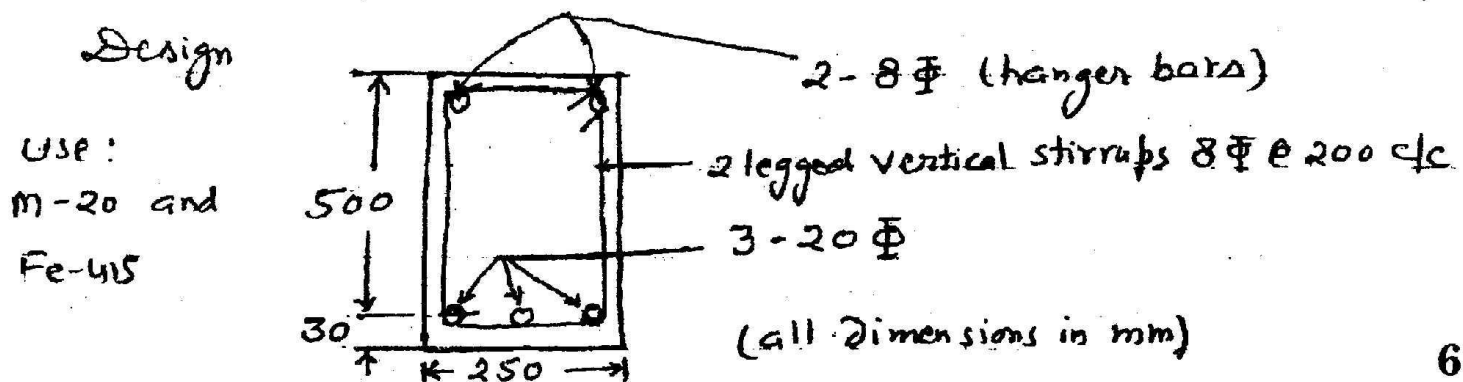

Fig. 1
- 2 (a) Determine the "Ultimate shear strength" of the support section shown in Fig. 1 by using limit state.